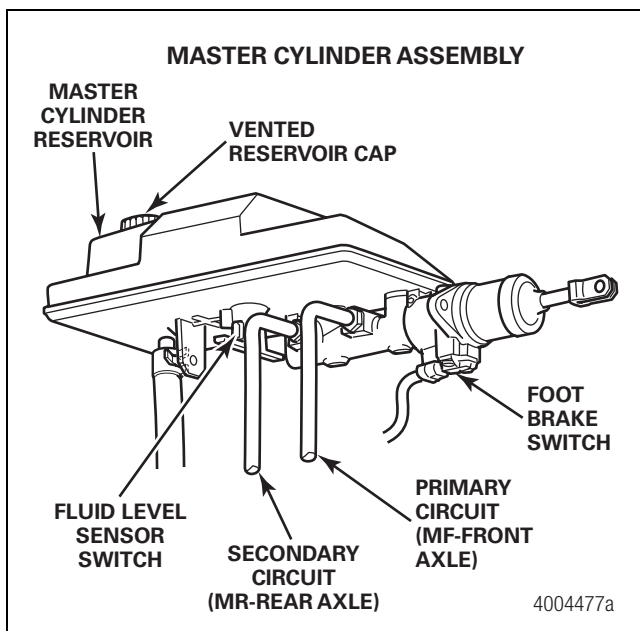

Figure 4.42
7. Connect the foot brake switch on the master cylinder and the fluid level sensor switch under the reservoir. Figure 4.42.